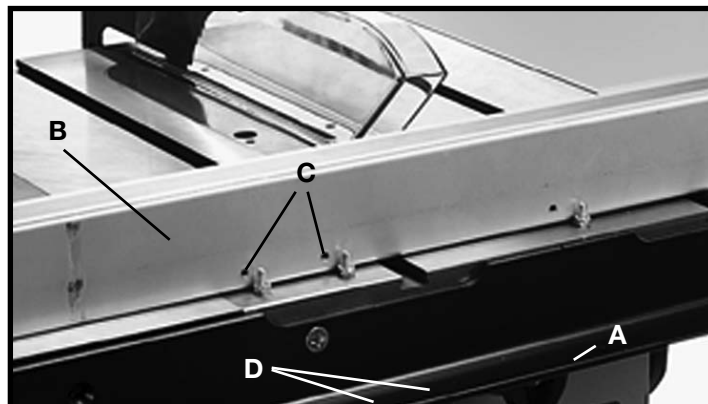

Fig. 88
12. Lay the guide tube (B) Fig. 88, on the saw table, and line up the threaded holes (C) on bottom of guide tube (B) with the through-holes (D) on the front rail (A) in seven places.